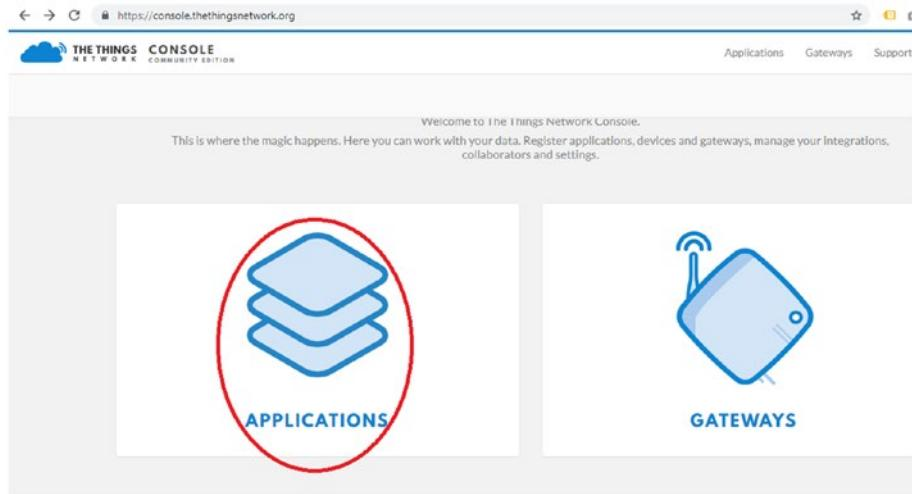

Figure 8-43. Accessing the Applications section
1. In the Things Network Console (<https://console.thethingsnetwork.org>), click Applications (Figure 8-43).